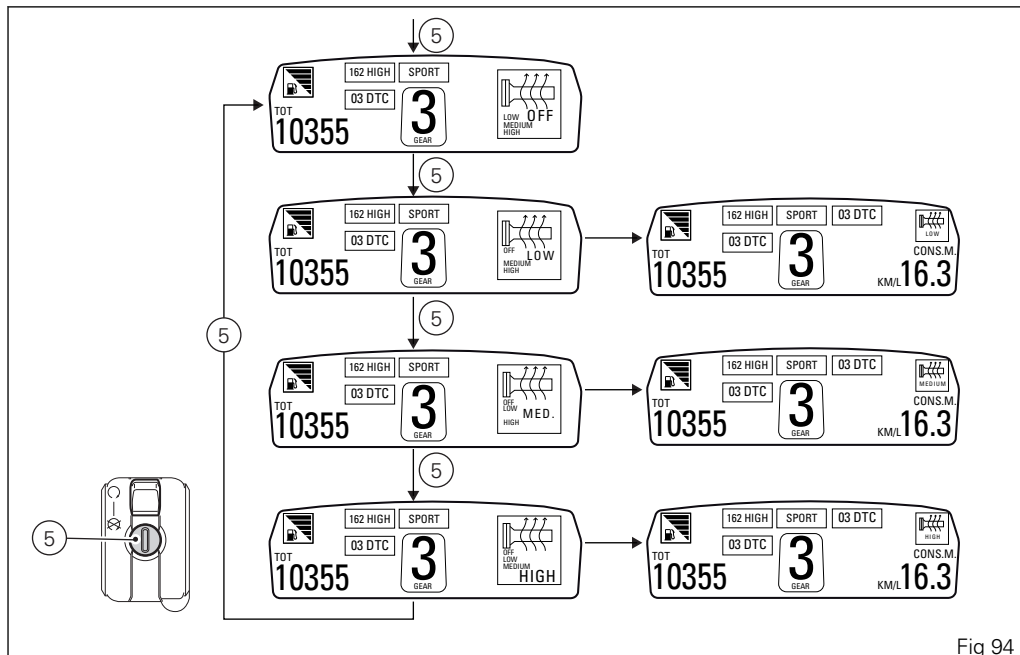

Fig 94
- with Menu 2 enabled (Fig 94);